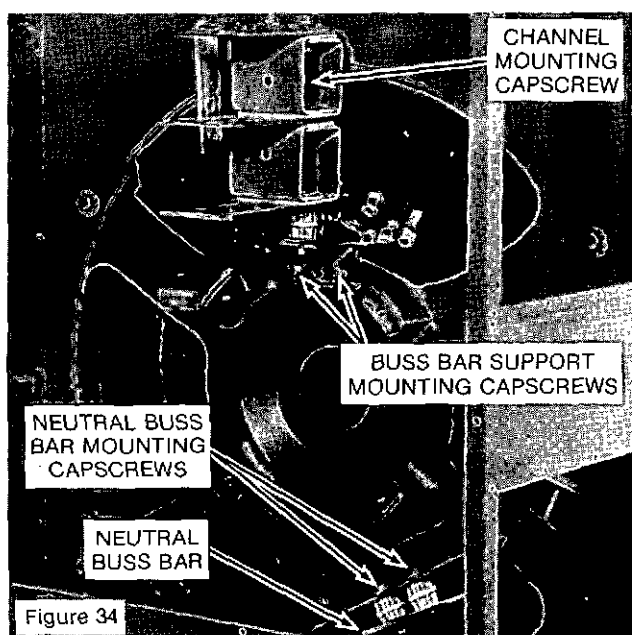

Figure 34
- a. On generators with four buss bars (T1, T2, T3, T0), mount the neutral buss bar to the support with the capscrows and lockwashers. (See Figure 34.) Mount the buss bar assembly to the front end bracket with the capscrows and lockwashers. Assemble the capscrow, flat washer, and lockwasher through the red insulating channel into the front end bracket.